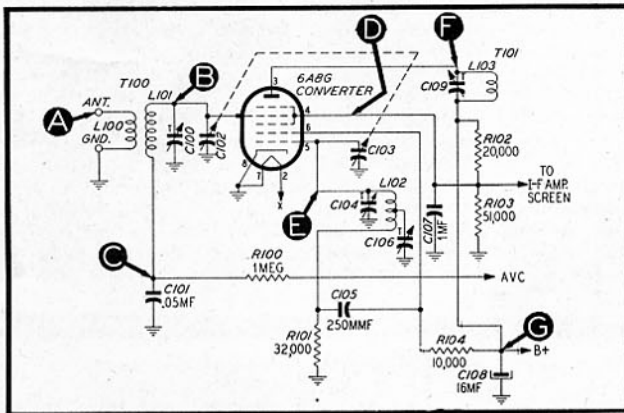

Figure 3. Converter Circuit
(1) Set probe coupling to position 2. Set signal-generator frequency to 600 kc. Place probe at point "A" (figure 3). No signal